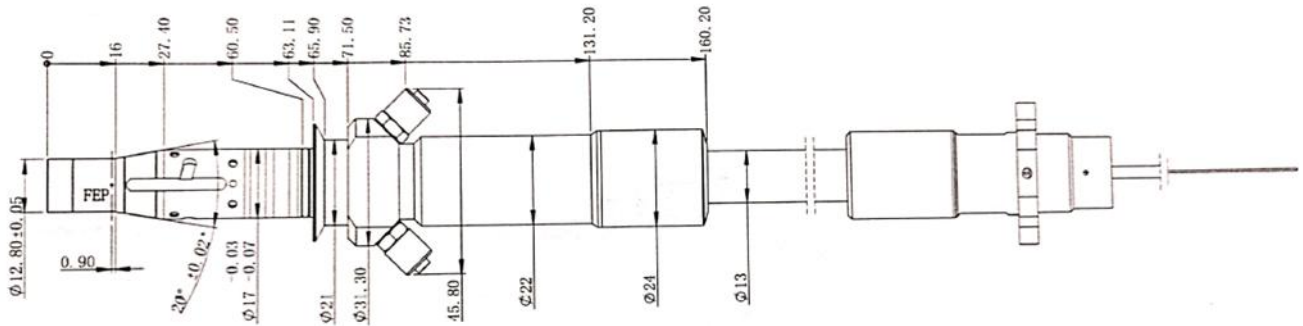

Figure 4 External dimensions of the RFL-HQBH fiber delivery cable connector
- a) RFL-1500/1500-ABP, RFL-2000/2000-ABP, RFL-3000/3000-ABP, RFL-2000/4000-ABP, RFL-4000/2000-ABP, RFL-4000/4000-ABP uses the RFL-HQBH model cable connector, and the external dimensions of the cable connector are shown in Figure 4: